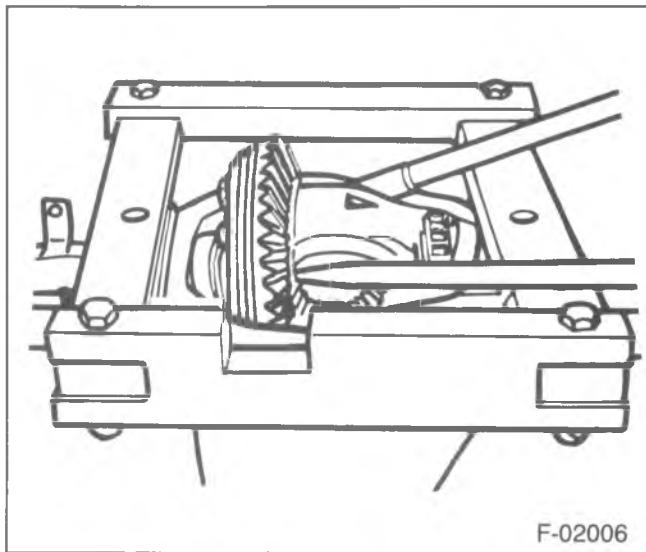
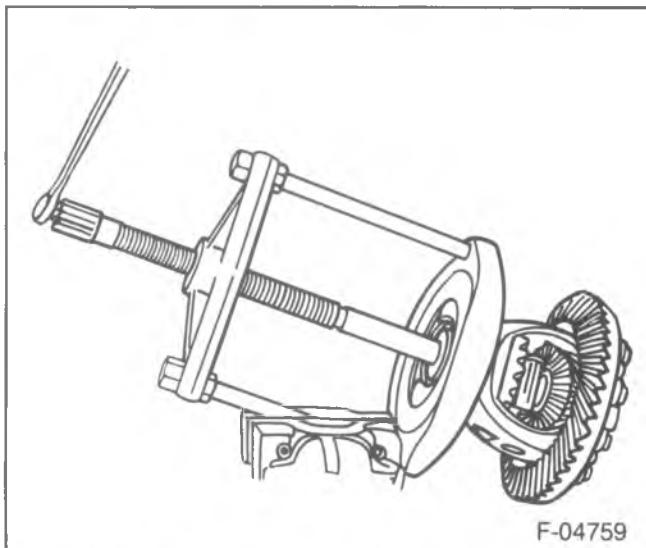

Figure 128—Removing the Differential
Figure 129—Removing the Differential Side Bearings
5. Differential case (22) from the carrier (1) using two pry bars (figure 128).
6. The spreader J-24385-01 from the carrier (1).
7. Bearing cups (20).
9. Differential side bearings (20) using J-29721, J-29721-70, and J-8107-3 (figure 129).
10. Differential shims (21).
11. Ring gear bolts (23).